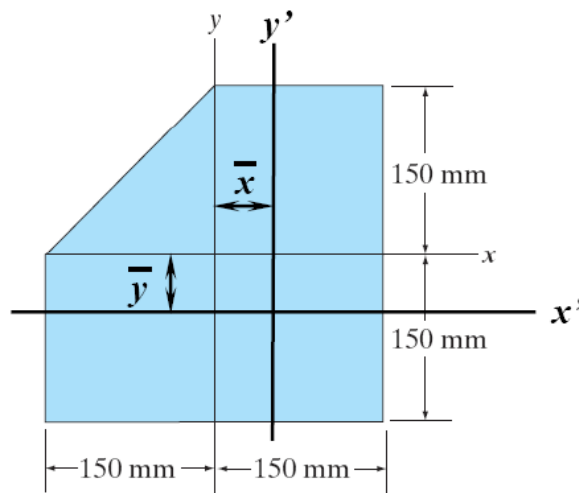

Figure Q4[a]
- Q4. [a]** Locate the centroid (\bar{x} , \bar{y}) of the composite area as shown in Figure Q4[a], then determine the moment of inertia of the area about the centroidal y' axis.